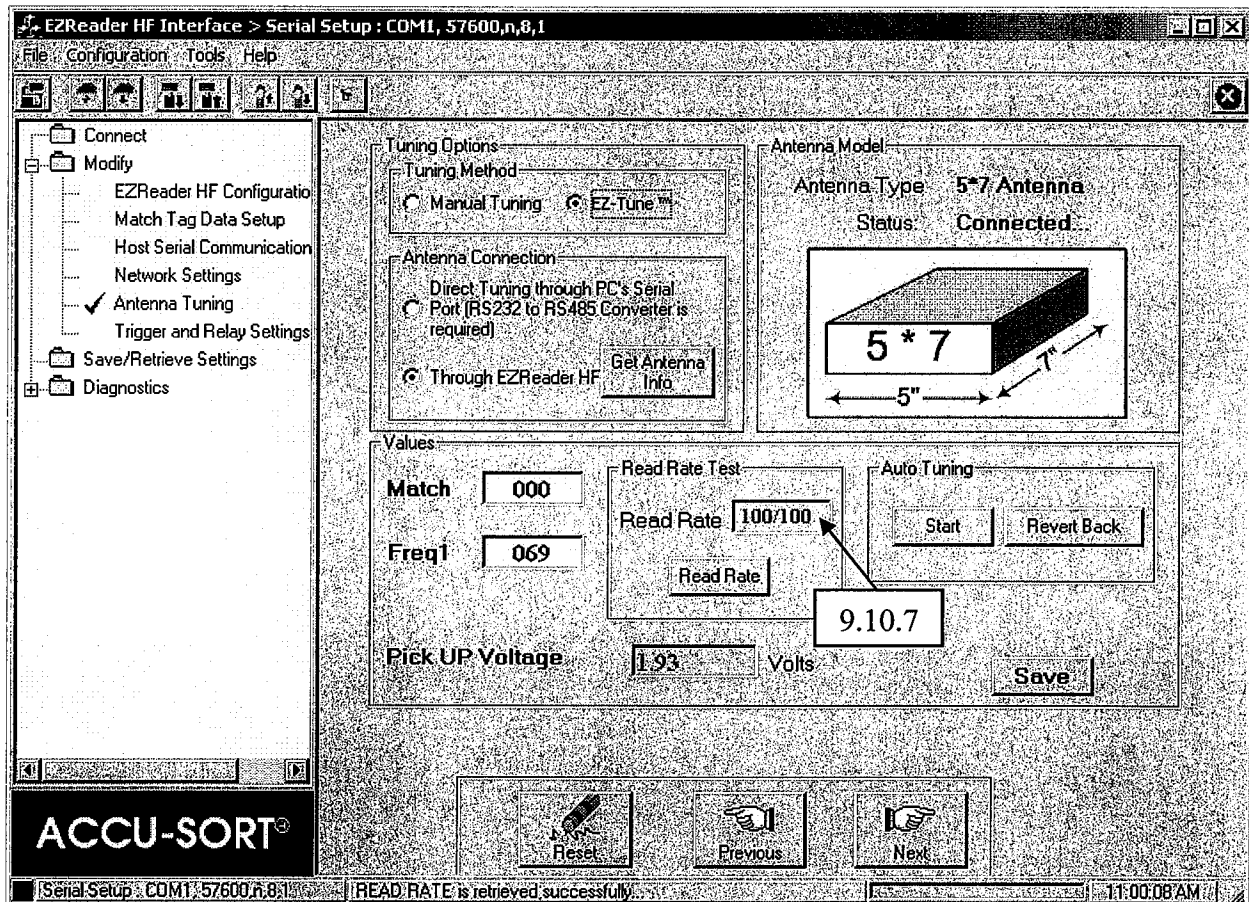

Figure 23
- 9.10.7 Place the ISO 15693 (TI) HF Test Tag on the PVC spacer and then hit the Read Rate button verify you get a 100/100 as shown in Figure 23. Note some times you may see a number such as 98/100 or 99/100 but it should be mostly 100/100.